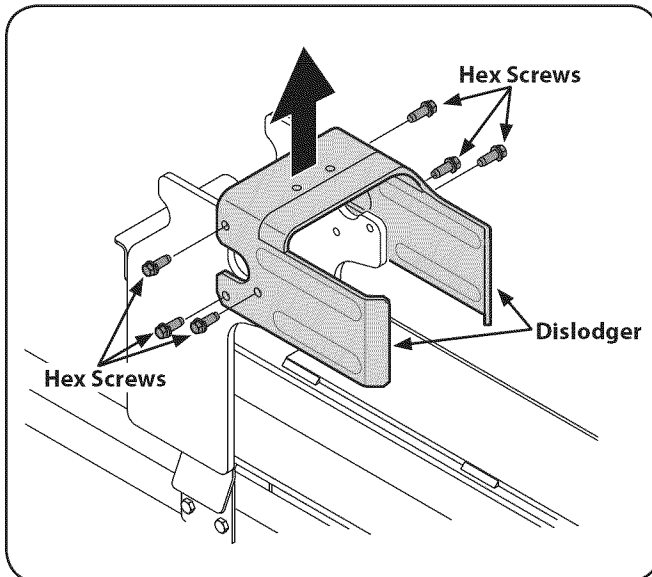

Figure 3-4
2. Disconnect the dislodge from the beam weld bracket by removing the six hex washer head screws. See Fig. 3-4.